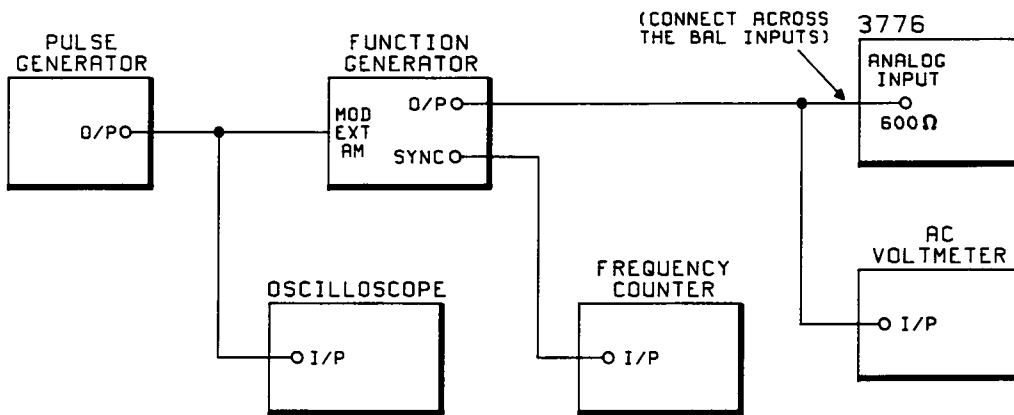

Figure 4-6 Gain Hits Test Set-up
1. Connect the equipment as shown in Figure 4-6.